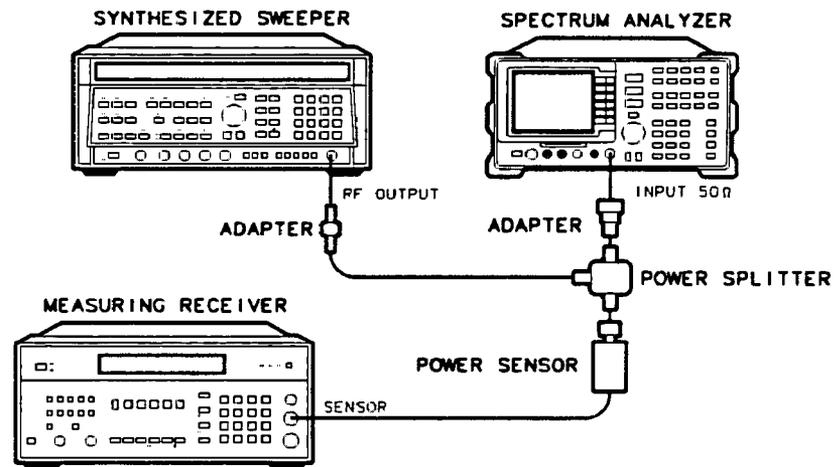

Figure 4-17. Other Input Related Spurious Test Setup
3. Connect the equipment as shown in Figure 4-17.